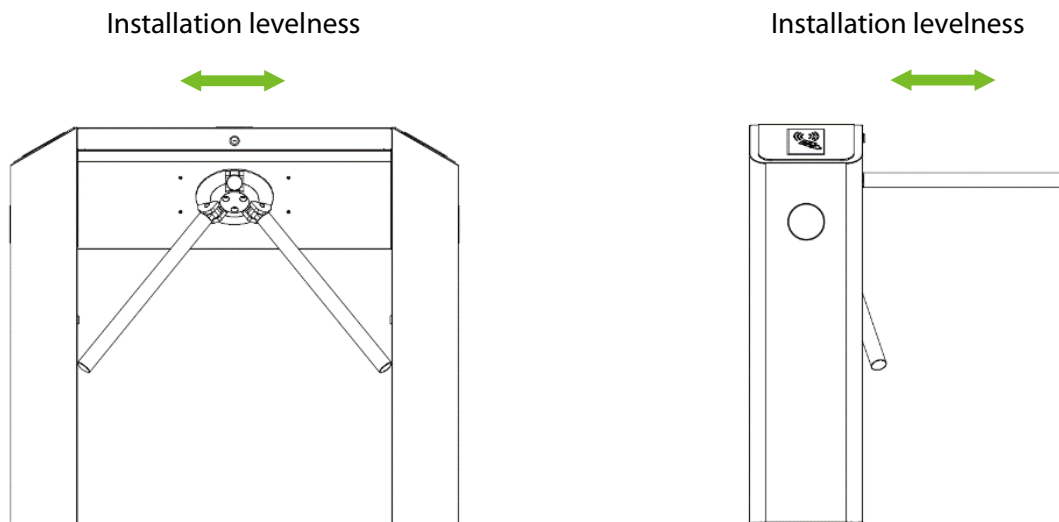

Figure 3-5
- Install the turnstile on the mounting plate and tighten the screws. Apply screw securing glue before using and putting gaskets on the screws to adjust the direction of the turnstile. If the tripod turnstile is not levelled, you can place gaskets to adjust, as shown in Figure 3-5.